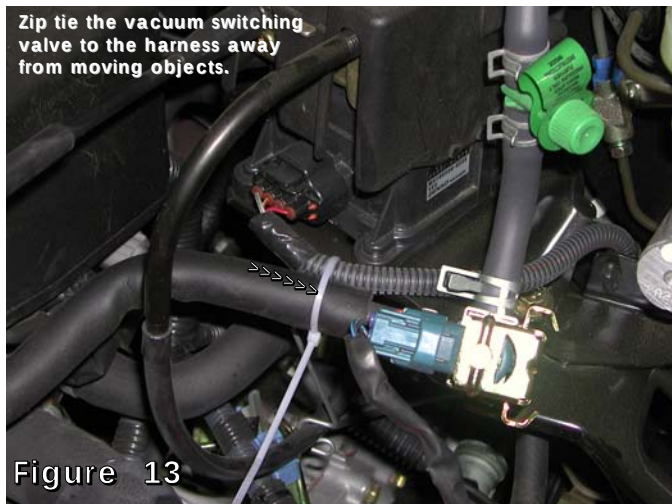

Figure 13
11. Plug the air temperature control sensor into the machined bracket on the intake and use the stock screws to fasten the sensor in place. Press the stock vacuum line underneath the intake over the 3/8" nipple on the intake. (See fig. 13)